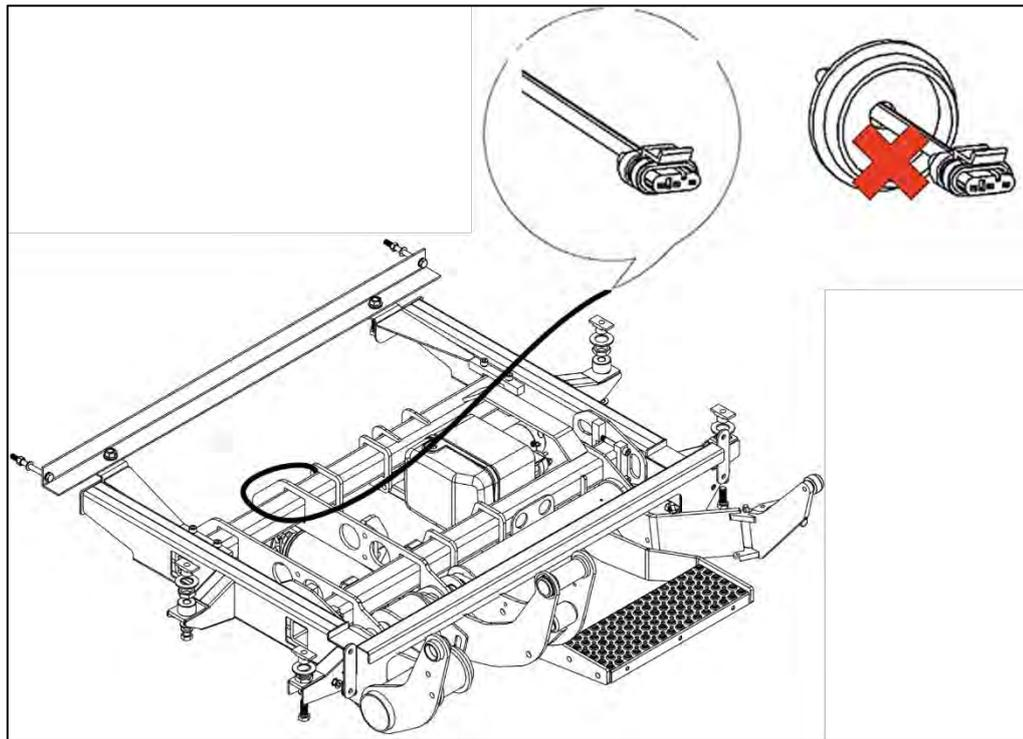

Figure 19
- Route the control unit cable for control panel connection to the right as viewed in the forward direction of travel (see Fig. 19).